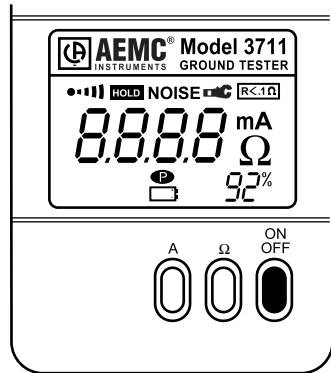

Figure 5
- Status of remaining battery life (battery symbol blinks, 0-100%) (Fig. 5)